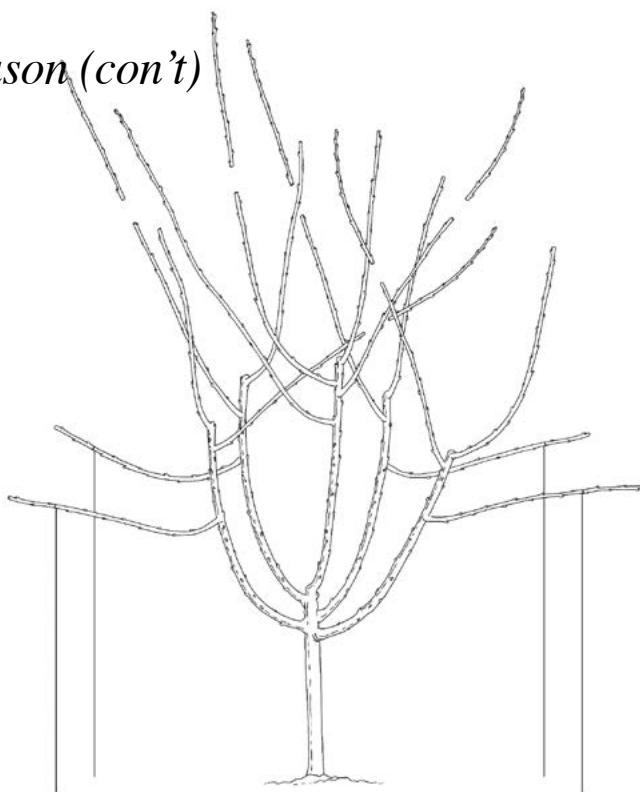

Figure 29
- Until fruiting begins, several temporary branches will help control overall tree vigor. These should be headed at about 24 inches. (Figure 29).